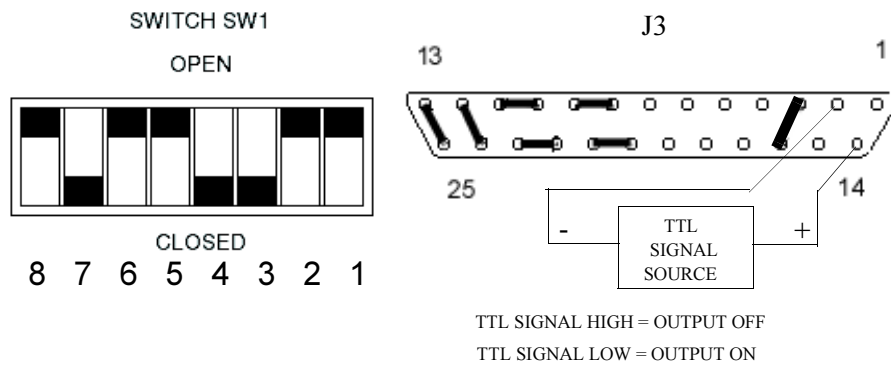
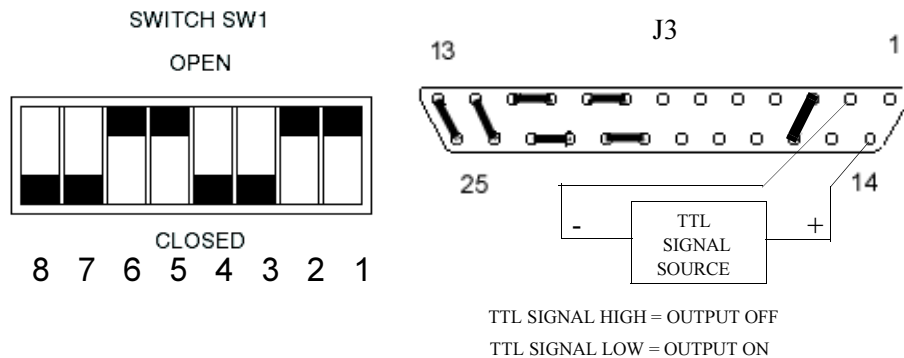

Figure 3.15 Using Shutdown with a TTL Compatible (Positive Logic)
Figure 3.16 Using Shutdown with a TTL Compatible (Negative Logic)
1. Turn off the power supply and disconnect the AC power source. Allow five (5) minutes to elapse to dissipate stored energy before making connections or resetting switches.
2. Connect the TTL signal source to pin 14 (TTL Shutdown Input/positive) and pin 2 (Return for Shutdown Input) on the J3 connector on the rear panel. See Figure 3.15 and Figure 3.16.